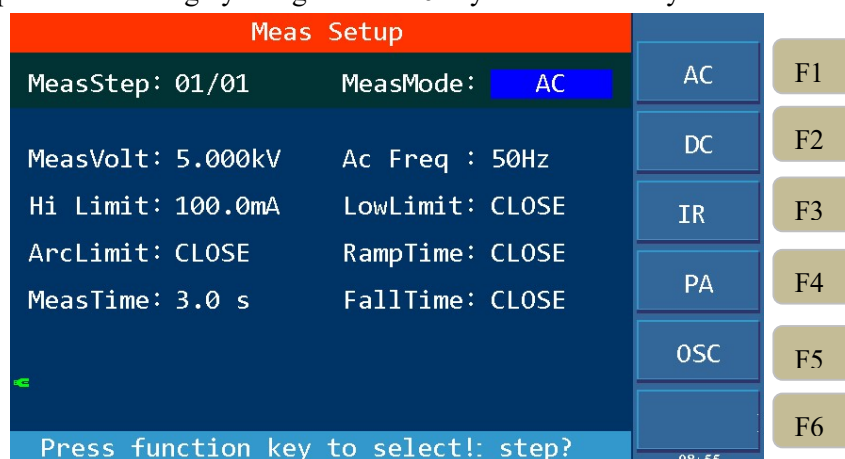

Figure 4-11 Meas Setup
1. Press **[SETUP]** to enter the measurement setup interface shown in Figure 4-11.